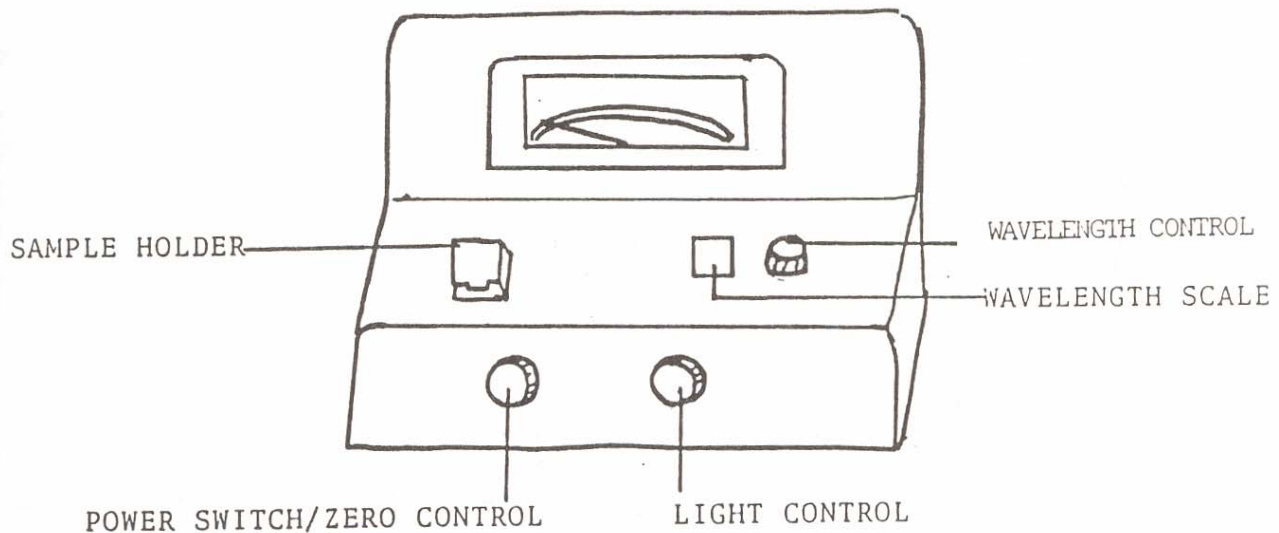

Figure 6.2. Controls for Spectronic 20.
1. Turn on by turning Power Switch/Zero Control knob (Figure 6.2) clockwise. Allow at least 15 minutes warm-up time.